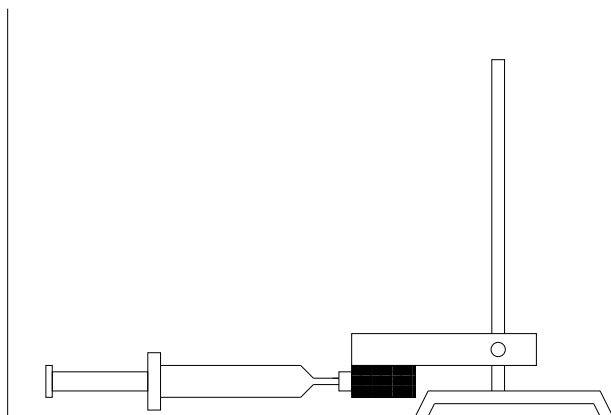

Figure 2: Sketch of pressure sensor and syringe/plunger assembly.
3. If the syringe is attached to the pressure sensor, disconnect it at the twist-lock quick connect coupling. Set the syringe plunger to the 60 cm^3 mark and then reconnect it to the pressure sensor. Make sure that the equipment looks as sketched in Fig. 2.